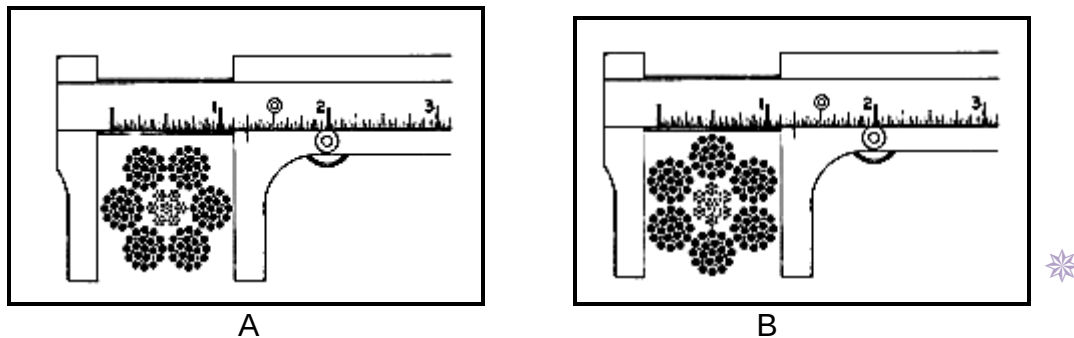

FIGURE 1
1.4 FIGURE 1 below shows the correct and the incorrect method of measuring the core of a rope.